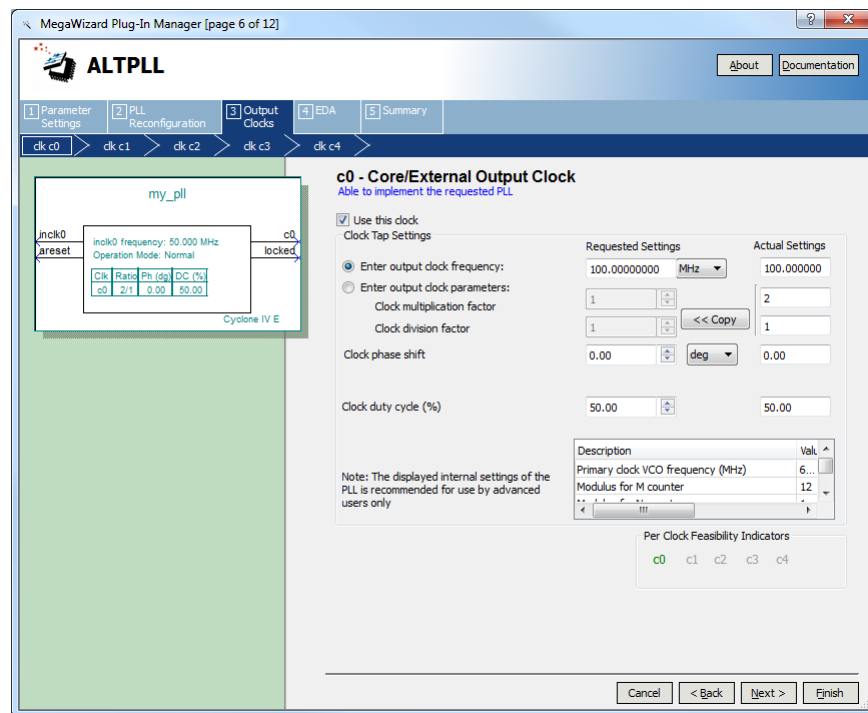

Figure 15. Settings for output c0.
5. Under the **Output Clocks** tab, enter 100 MHz after selecting **Enter output clock frequency** as shown in Figure 15. This will cause the PLL to output a 100-MHz clock for the system clock `sys_clk`. Click **Next** to go to the `clk_c1` section.